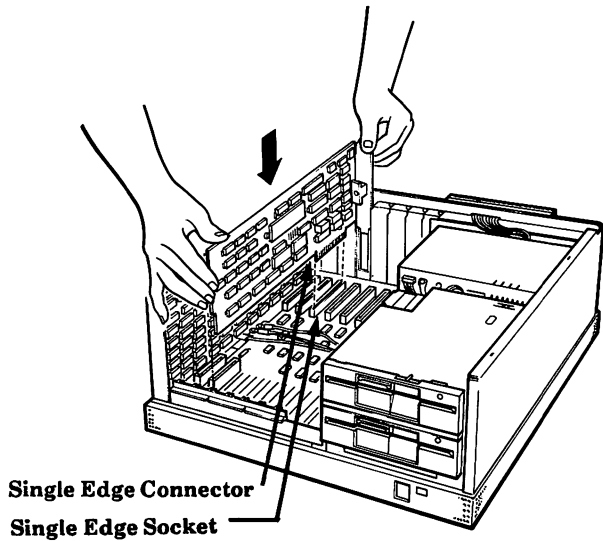

Figure 2-4. Installing the coax option board.
8. Locate the two wires connected to the back left corner of the processor. Gently move the wires back out of the way so you can insert the coax option board as shown in Fig. 2-4 on the next page.